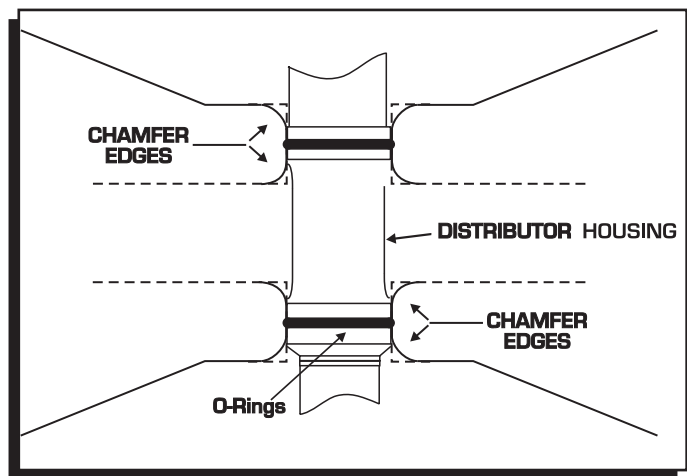

Figure 11 Modified Chevy Block for use with O-Rings.
7. Install the gasket and apply a liberal amount of the supplied lubricant to the distributor gear. (The supplied O-rings can **only** be used if the Chevrolet block has been modified as shown in Figure 11.)